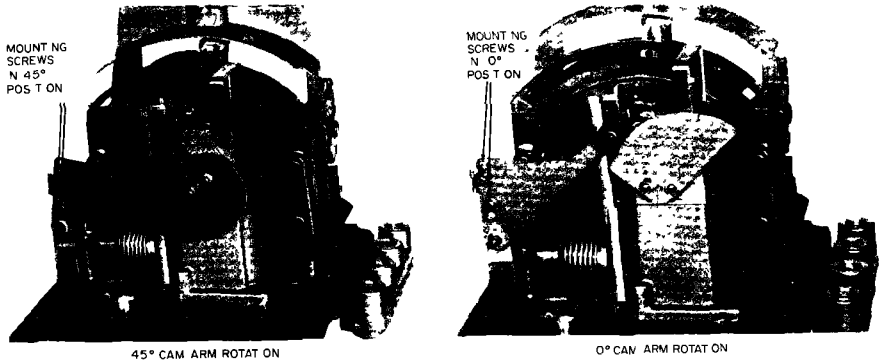

FIGURE 9 - Positioning of Zero Adjustment Assembly
1 Remove two 4-40 screws holding zero adjustment assembly in 45⁰ position on cam follower arm. See Figure 9. Shift zero adjustment assembly to 10⁰ position on cam follower arm (second and outside holes). Replace and tighten mounting screws.
1. Remove two 4-40 screws holding zero adjustment assembly in 45° position on cam follower arm. See Figure 9. Shift zero adjustment assembly to 10° position on cam follower arm (second and outside holes). Replace and tighten mounting screws.